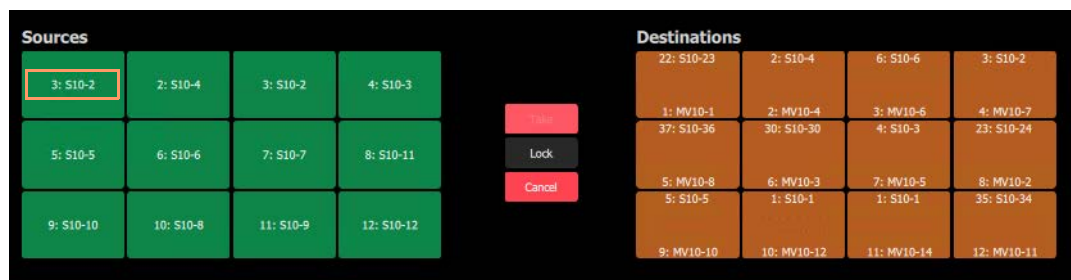

Fig. 13-30: Running XY Panel
- 8 The XY Panel runs and the newly-assigned Source is assigned to the Source button, see Figure 13-30.